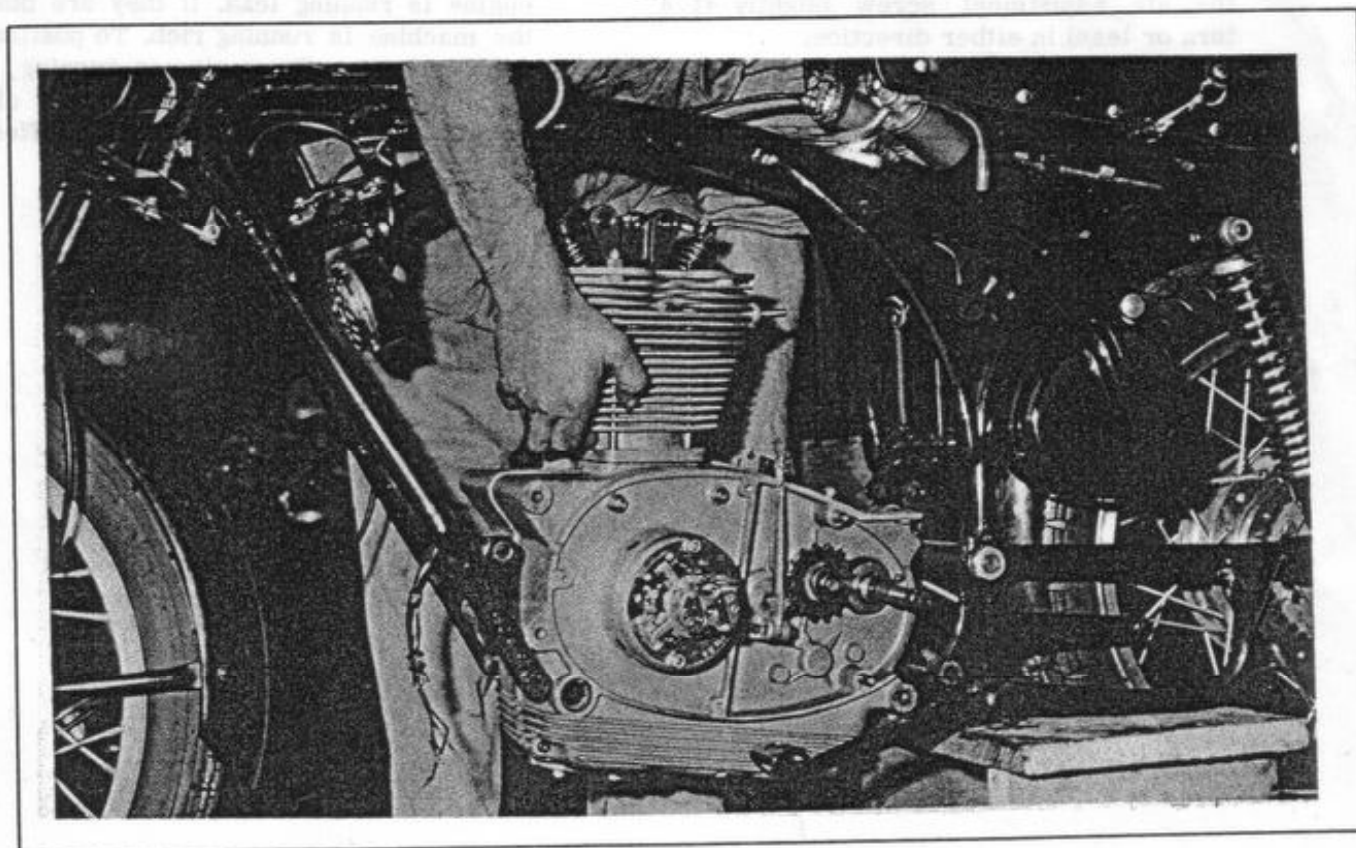

Figure 38.
22. Lift up the front part of the engine and rotate the rear part down and out to clear the frame (Figure 38).